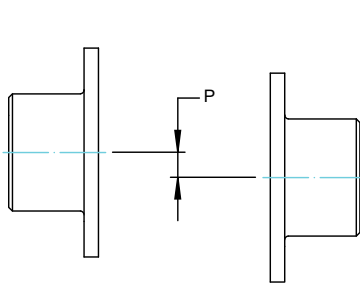

Figure 6 - Parallel Offset Misalignment.
8.4. The “Parallel Misalignment” value (P) is the offset between the centers of the hubs, as shown in Figure 6.